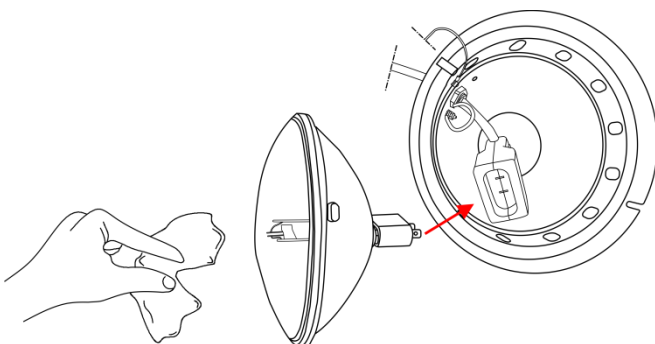

Fig. 05
- 05) Pull out the lamp holder and insert the lamp (Fig. 05).